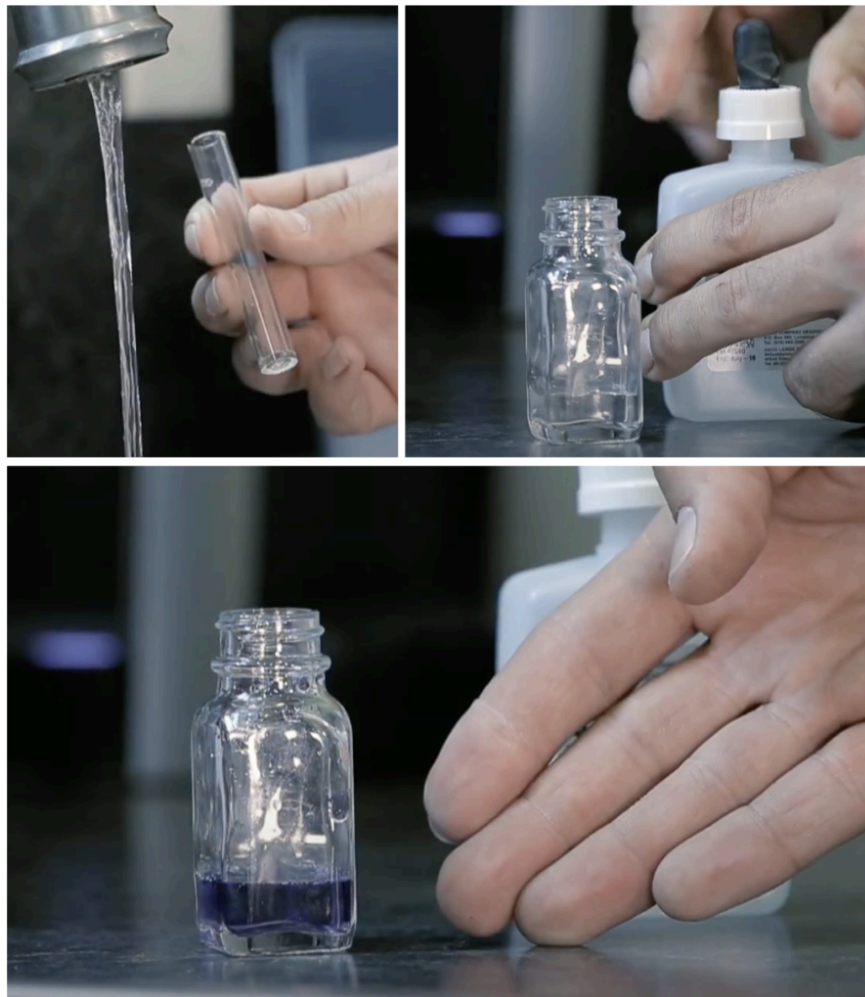

Figure 20. Mixing container, water measuring tube and reagent causing colour change
- Figure 20. “Mixing container, water measuring tube and reagent causing colour change” are screenshots from Lancaster Water Group is used for educational purposes under the basis of fair dealing.